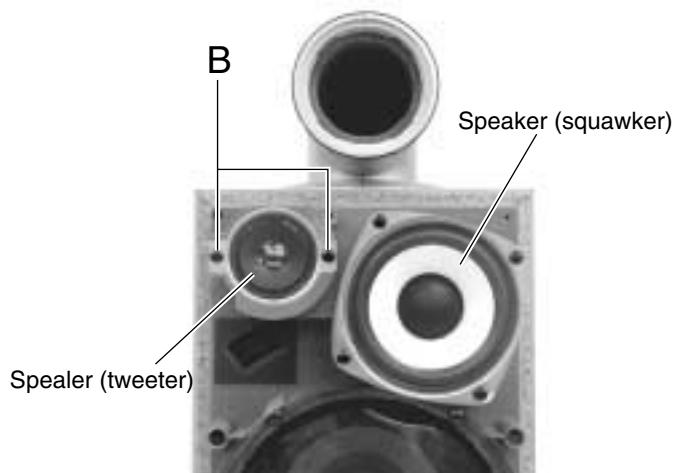

Fig.2
■ Removing the supeaker (tweete) (See Fig.2)